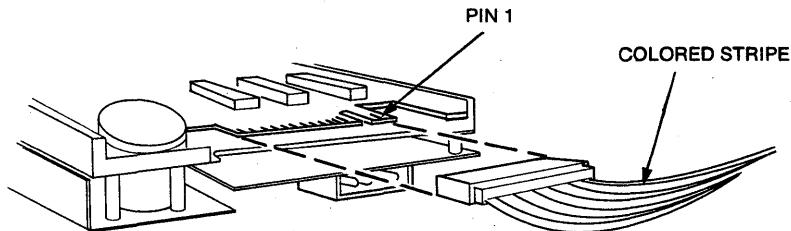

Figure 7: Connecting the Ribbon Cable to the Tape Drive
7. Connect the ribbon cable to the back of the tape drive as shown in Figure 7.